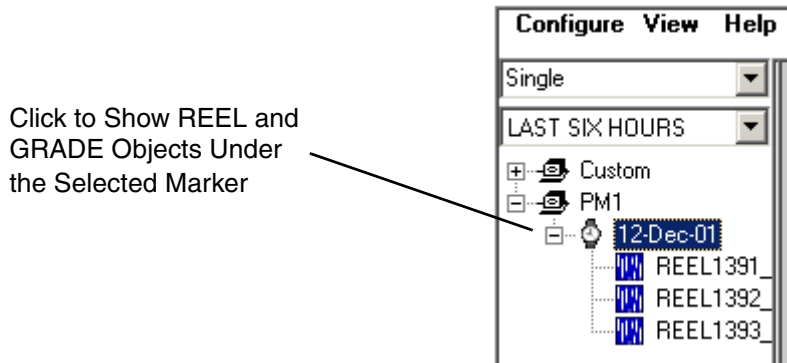

Figure 31. Quality Measurements Under Selected Marker
4. Click the corresponding (+/-) button to show the REEL and GRADE objects under the marker, Figure 31.